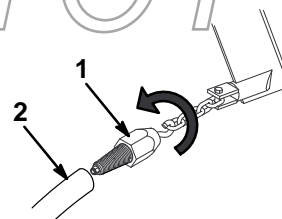

Figure 7
- Thread the tapered end of the tubing bullet into the end of the tubing to be installed, ensuring that you achieve a tight bond (Fig. 7).